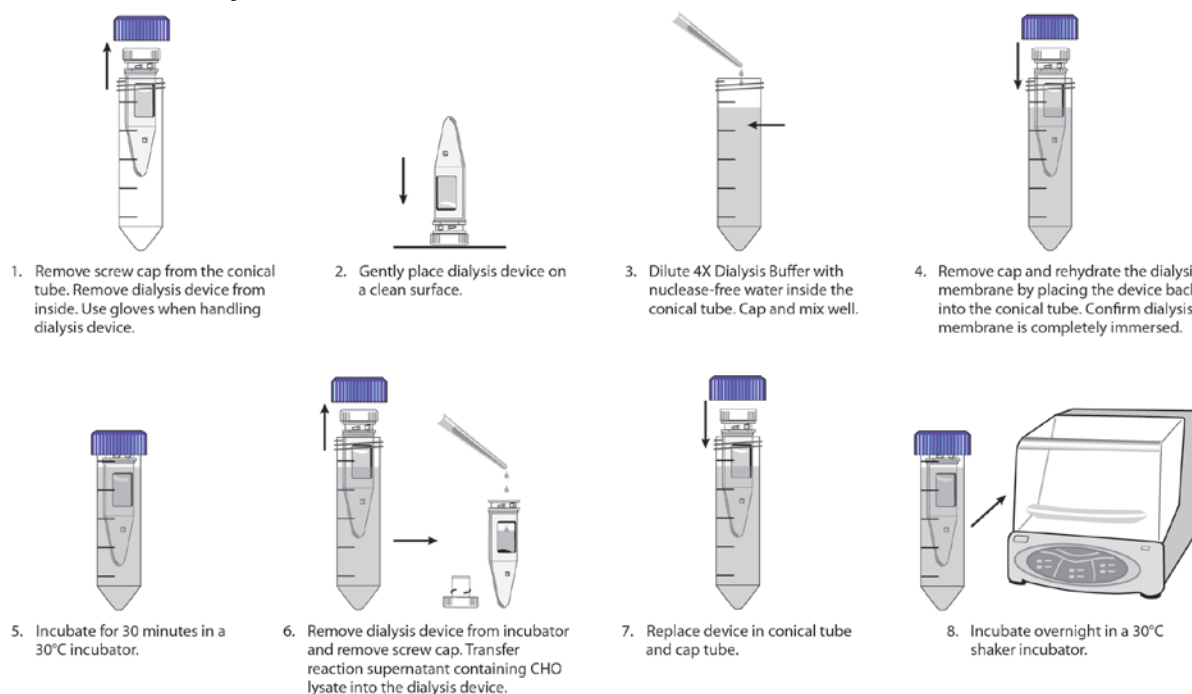

Figure 1. The Thermo Scientific 1-Step CHO High-Yield Maxi IVT Kit protocol.
- 10 unique restriction sites are provided in the multiple cloning site for cloning genes of interest (Figure 1)
Figure 1. The Thermo Scientific pT7CFE1-NHis-GST-CHA Vector multiple cloning site, with the exception of Msc I, is common to all of the expression vectors used in the Thermo Scientific 1-Step High-Yield CHO IVT Kits. The translational start site is the ATG found upstream of the His tag region.